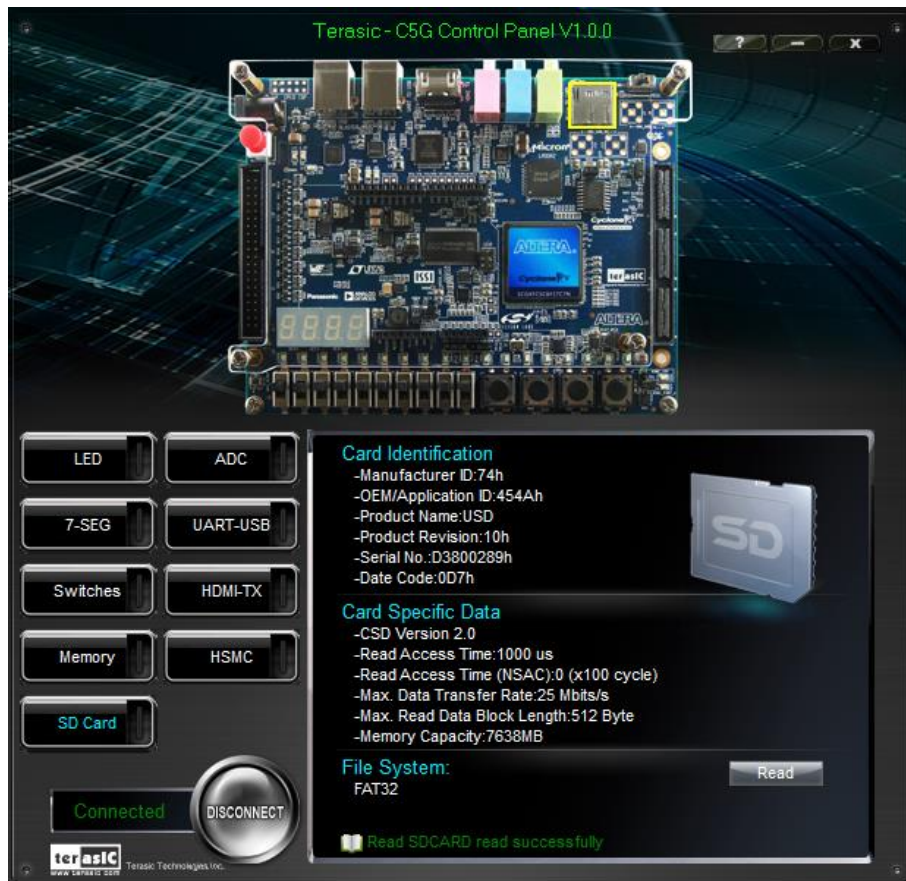

Figure 2-7 Reading the SD Card Identification and Specification
1. Choosing the SD Card tab leads to the window in **Figure 2-7**.